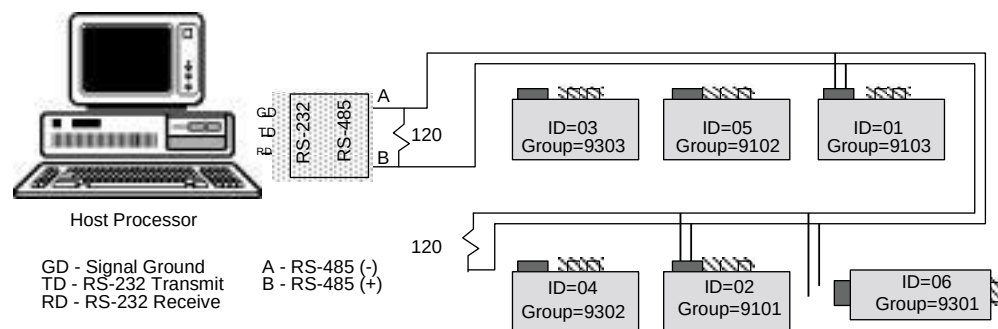

Figure 4.21—RS-485 PPT Multidrop Network
A PPT multidrop network connection of six units is shown in Figure 4.21. In this network, the device IDs are not in order from one end of the network to the other. Looking at all the units on the bus, the device IDs are sequential beginning with ID=01 and without duplication. This is an important setup condition if global commands (\*99) are desired.
**Assign Group Numbers:** Once the device IDs are set the group IDs can be assigned. Each unit in the same group must have a sequential sub-address - beginning with 01. The sub-address tells each unit what order it should respond in a group addressed command. To set the group (91) and sub-address (01) for device ID=02, send the following commands: **\*02WE**, **\*02ID=9101**, **\*02WE**, **\*02SP=ALL**. Now when a command is sent to group 91, device ID=02 will be the first one to reply. In Figure 4.21, there are two address groups, 91 and 93; each have 3 PPT units assigned.
When a RS-485 multidrop network has all device IDs properly assigned (Figure 4.21), then global addressed commands can seek replies from all units without conflict. The **TO=N** and **TO=P** commands instruct the units how to reply in this situation. When **TO=N** command is set, each PPT will respond in sequence beginning with ID=01, one right after another. It is important that during this response sequence the host processor, or user, not transmit on the bus until the last unit has finished its message. A carriage return (<cr>) sent during the response sequence will cause the next unit ID to send its response even though the previous unit ID is still transmitting.